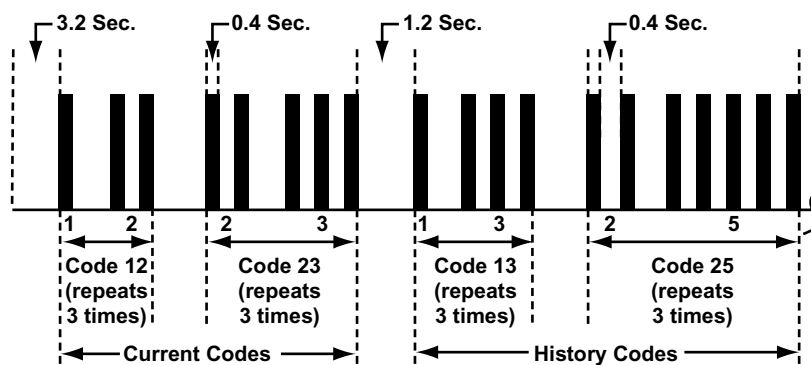

Figure 10-26 Isuzu ABS Code Type 05a
- Type 05a, see Figure 10-26 and Table 10-7 on page 110